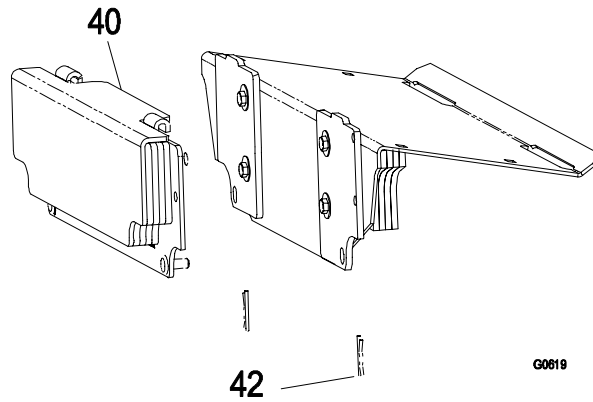

FIGURE 5
3.4.13 Hook weight plate assembly (Item 40) over the top of the weight mounting plates and secure with two hairpins (Item 42) as shown in Figure 5.